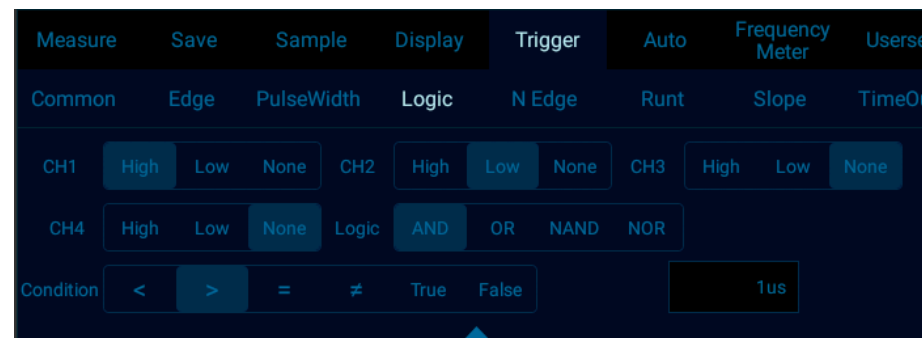

Figure 6-20 Logic Trigger Setting Menu
- 1) Tap “Trigger” on the main menu to open the trigger menu, select logic trigger in the trigger type, and set the logic trigger as follows, as shown in Figure 6-20: